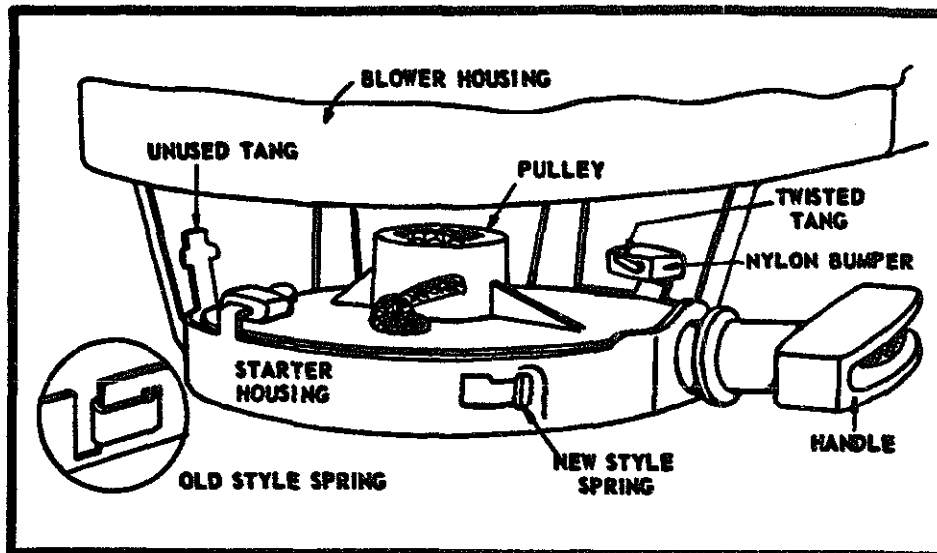
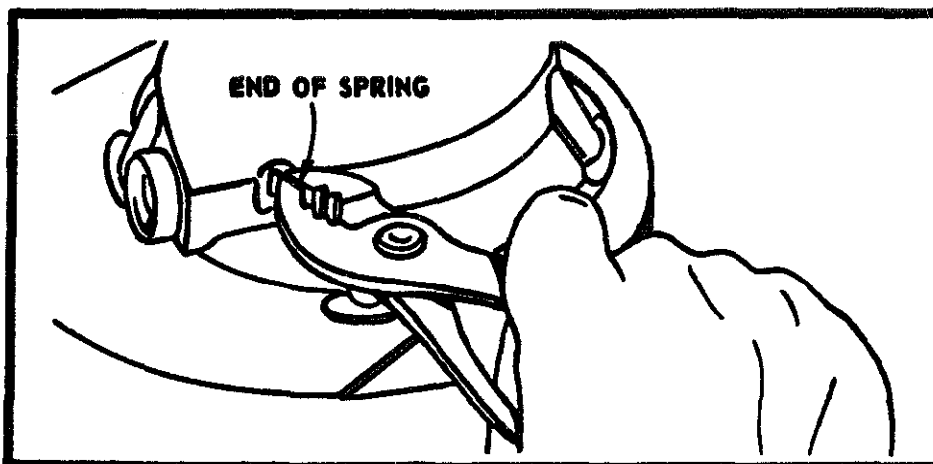

Fig. 5-2. New style spring ends improve the reliability of these starters. (Courtesy Briggs & Stratton Corp.)
Fig. 5-3. Disarm the spring before disassembly. (Courtesy Briggs & Stratton Corp.)
**Horizontal Pull Starter.** To dismantle the starter, remove the shroud and place the assembly upside down on a bench (Fig. 5-2). Cut the rope at the pulley knot and extract it. Using a pair of pliers, pull the main spring out of the housing as far as it will come (Fig. 5-3). The purpose is to bind the spring so that it will not "explode" when the pulley is detached. For further protection, wear safety glasses. Carefully straighten the pulley tangs. Withdraw the pulley, twisting it slightly to disengage the spring. Clean the metal parts in solvent and inspect for damage.